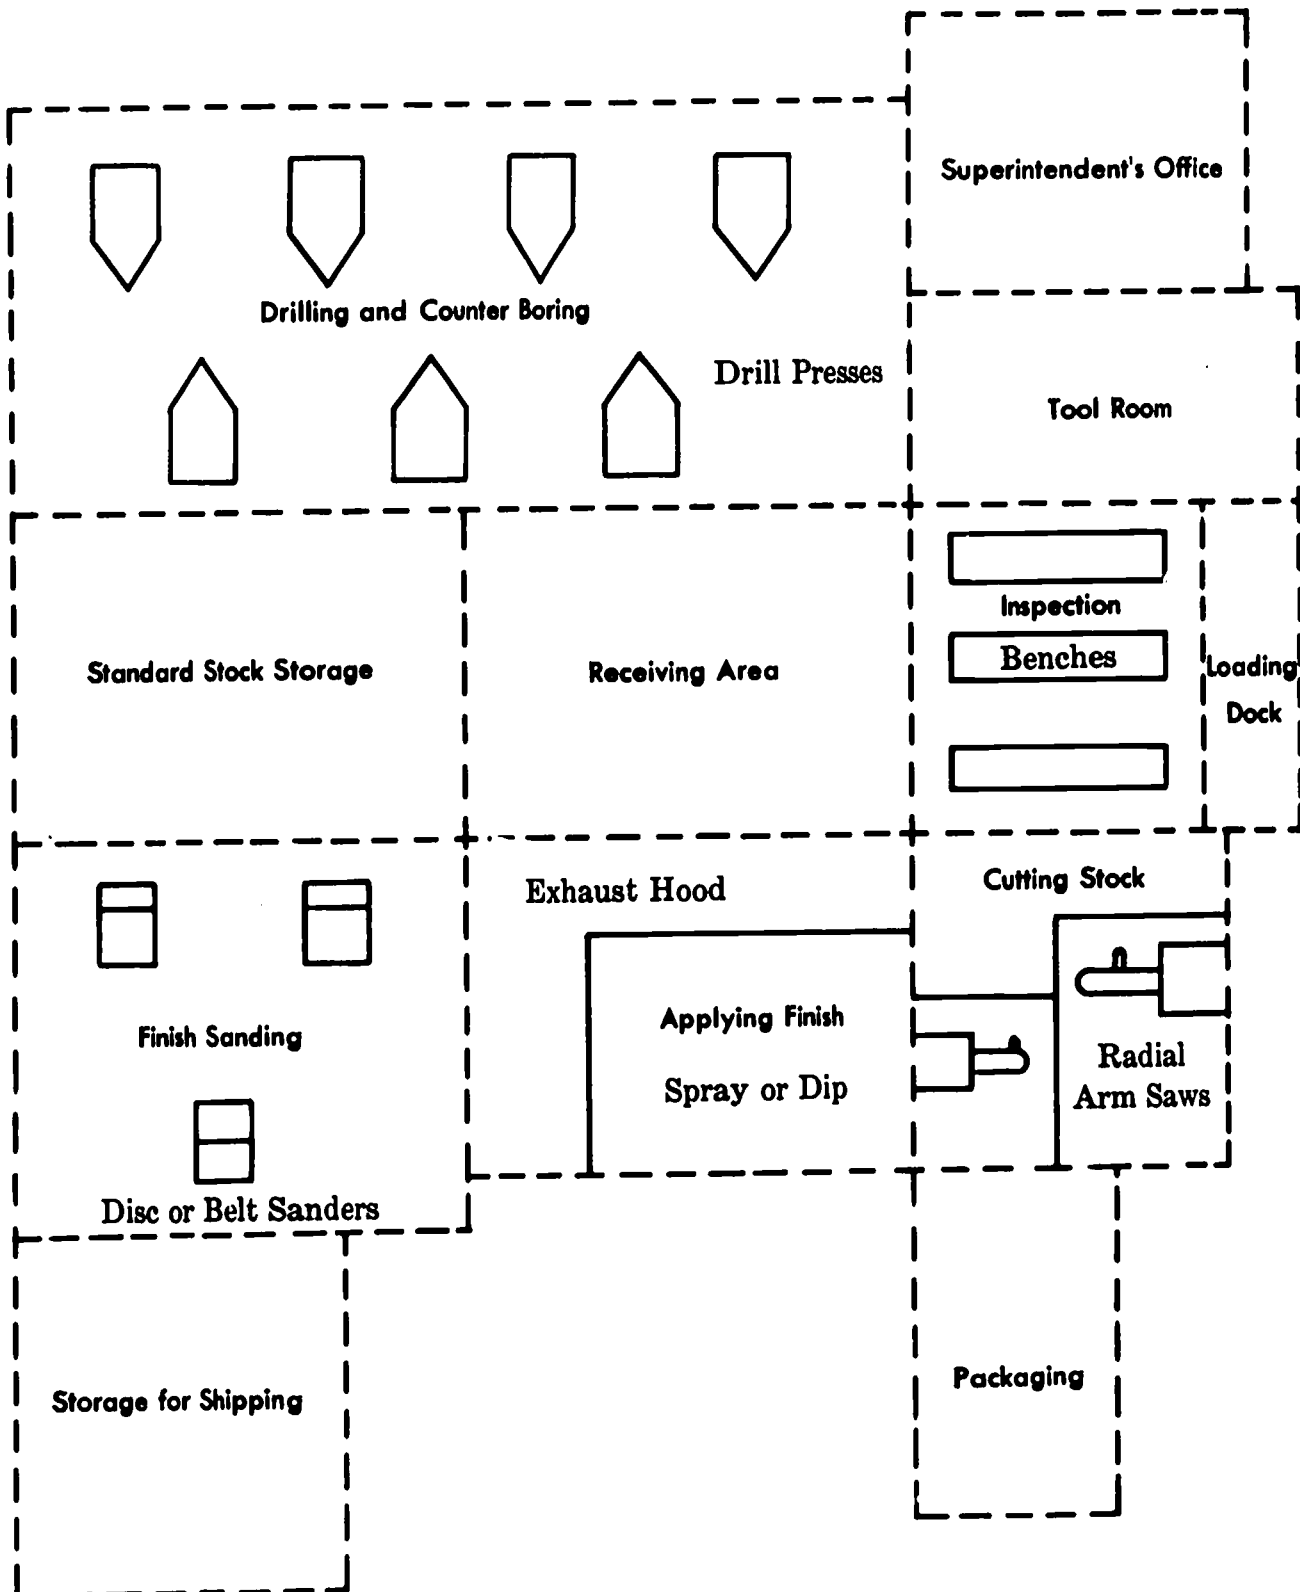

Fig. 20-3. Template Sheet
3. Use scissors to cut out the templates in Fig. 20-3. Cut on the *dashed lines* so that the needed work area will be allowed for each area.